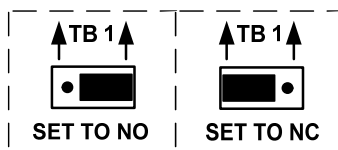

Figure 3
Each of the CCM-2 relay output functions can be set individually to operate either normally open (NO) or normally closed (NC) depending on the position of each jumper (see Figure 3). For fail secure lock operations the jumper must be in the "NO" position, for fail safe operation it must be set in the "NC" position.